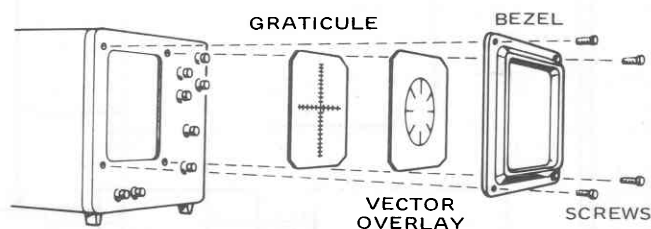

Fig. 24. Installation of vector overlay.
1. Attach vector overlay to scope. Remove 4 bezel mounting screws and lift off bezel. Insert overlay and attach bezel (see Fig. 24).